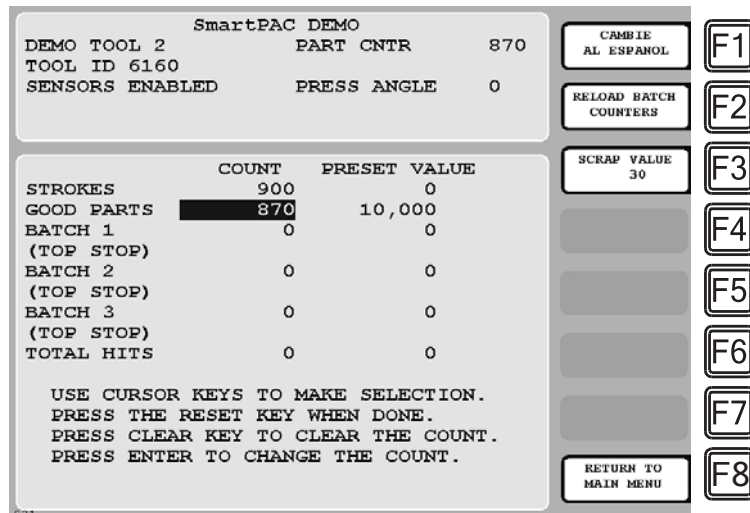

Figure 1-9 - Counters Screen with Scrap Value Updated to 30 Items
- Enter the number of scrap parts you wish to record, following the directions in the window, and press “ENTER”. (*Figure 1-9* shows a scrap entry of “30” as an example.) When you press “ENTER”, the value in MODBUS Register 401021 will increment by the value you entered. In the example above, 30 counts will be added to the Non-resettable Scrap Counter.
When you press “ENTER”, the Scrap Value Entry window disappears, and the value you keyed in is displayed beneath the “Scrap Value” caption to the left of the “F3” function key, as shown in *Figure 1-9*, where a scrap value of “30” is used as an example.
Even though the Good Parts counter displayed on the SmartPAC is reduced by the amount of your scrap entry (e.g., $900-30=870$ in *Figure 1-9*), this entry has no effect on the non-resettable Good Parts Counter in MODBUS register 401011.